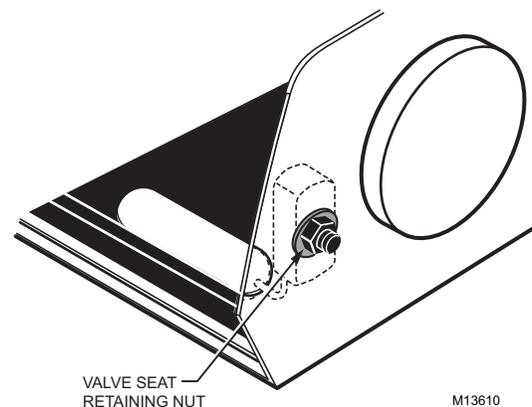

Fig. 23. Float Valve Retaining Nut.
- a. Unscrew Float Valve Retaining Nut using a 1/2 in. wrench. See Fig. 23.
- e. Secure Float Valve using Float Valve Retaining Nut and tighten with 1/2 in. wrench. See Fig. 23.